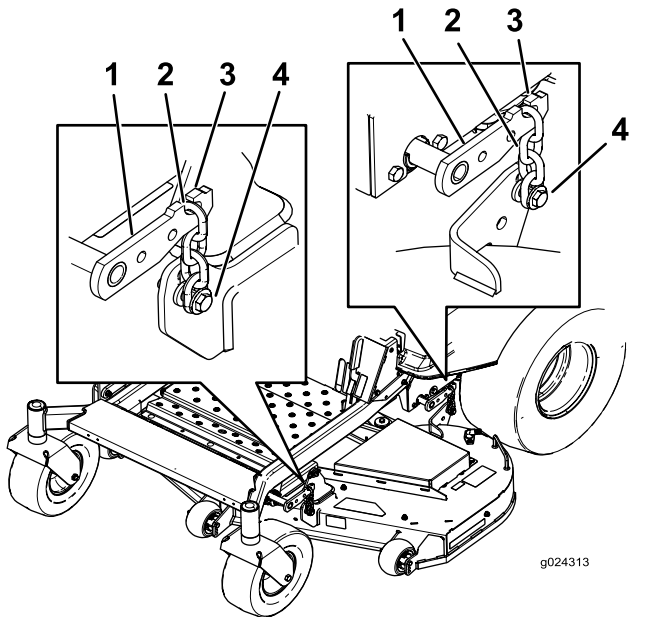

Figure 69
3. Remove the chains from the hooks on the deck lift arms (Figure 69).
6. Lift the rear of the mower deck and attach the chains to the rear lift arms (Figure 69).
7. Attach the front chains to the front lift arms (Figure 69).